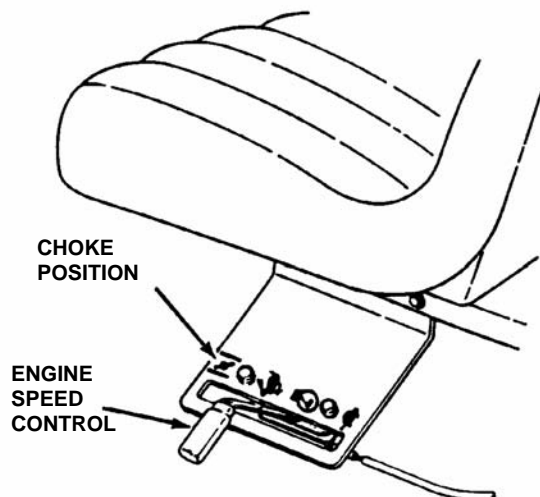

FIGURE 2.6
5. Move engine speed control to the choke position. See Figure 2.6.
1. Move transmission shift lever to (N) Neutral position. **DO NOT** start engine with transmission shift lever in a drive position.
5. Move engine speed control to the choke position to start a cold engine. See Figure 2.6.